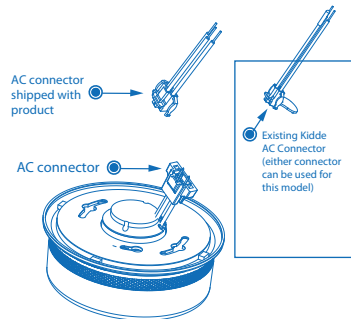

Figure 10-B
- Figure 10-A illustrates interconnection wiring. Improper connection will result in damage to the alarm, failure to operate, or a shock hazard.